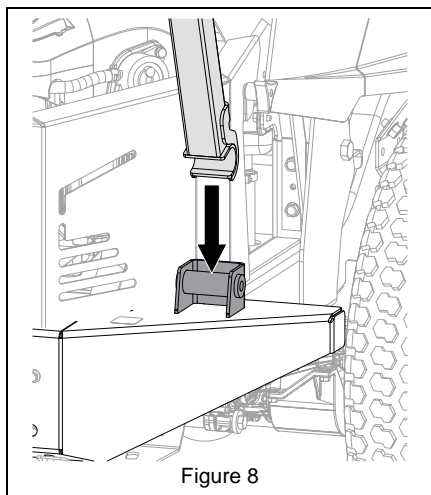

Figure 8
5. Position bagger post ends onto bagger mounts. See Figure 8.